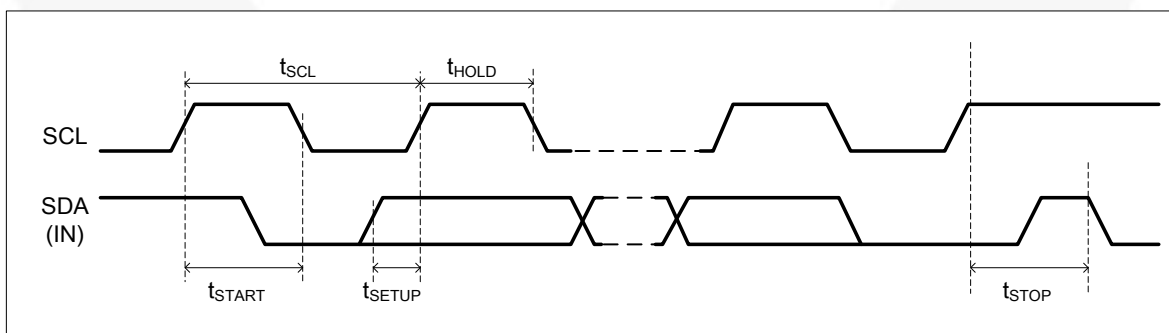

Figure 8. I2C interface Timing Diagram
10. I2C timing diagram as Figure 8.